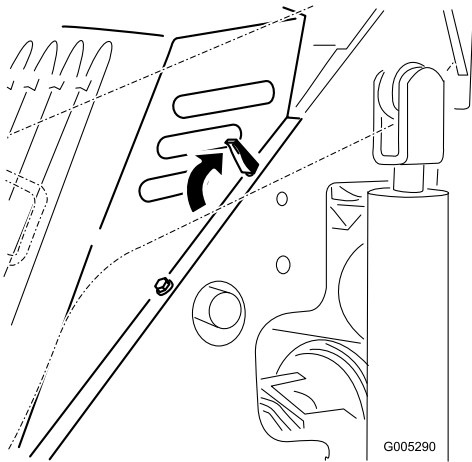

Figure 17
3. Release the four locking tabs (Figure 17).
1. Position the hood over the traction unit frame with the posts on the hood fitting into the holes in the frame (Figure 17).
2. Secure the hood by pushing the locking taps forward and down (Figure 17)